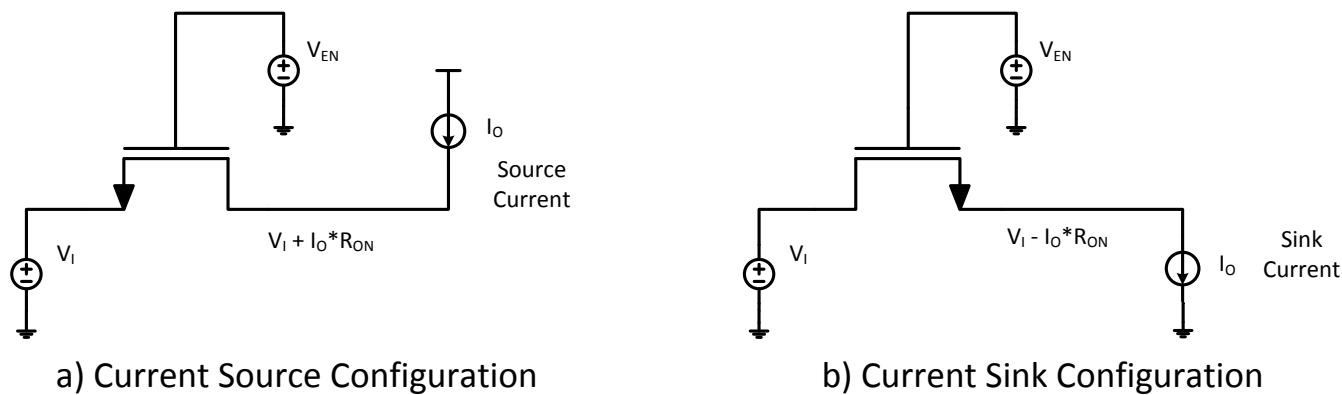

Figure 7-1. Current Source and Current Sink Configurations for R_{ON} Measurements
(1) All typical values are at $T_A = 25^\circ\text{C}$.
(2) Measured by the voltage drop between the SCL1 and SCL2, or SDA1 and SDA2 terminals, at the indicated current through the switch. Minimum ON-state resistance is determined by the lowest voltage of the two terminals.
(3) Measured in current sink configuration only (See Figure 7-1)
over recommended operating ambient temperature range, EN = 3.3 V, V_{IH} = 3.3 V, V_{IL} = 0, V_M = 1.15 V (unless otherwise noted) (see Figure 7-1).
over recommended operating ambient temperature range, EN = 2.5 V, V_{IH} = 3.3 V, V_{IL} = 0, V_M = 0.75 V (unless otherwise noted) (see Figure 7-1).
over recommended operating ambient temperature range, EN = 3.3 V, V_{IH} = 2.3 V, V_{IL} = 0, V_T = 3.3 V, V_M = 1.15 V, R_L = 300 Ω (unless otherwise noted) (see Figure 7-1).
over recommended operating ambient temperature range, EN = 2.5 V, V_{IH} = 2.3 V, V_{IL} = 0, V_T = 3.3 V, V_M = 0.75 V, R_L = 300 Ω (unless otherwise noted) (see Figure 7-1).